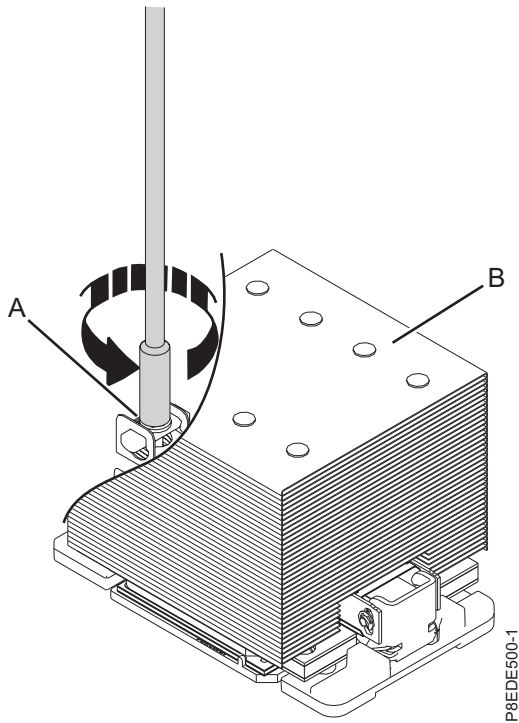

Figure 17. Removing the heat sink
- a. Loosen the heat sink actuation screw by turning the supplied 5.5 mm nut driver (part number 43W3032) counterclockwise **(A)** until the screw becomes loose and moves freely as shown in Figure 17 on page 20.